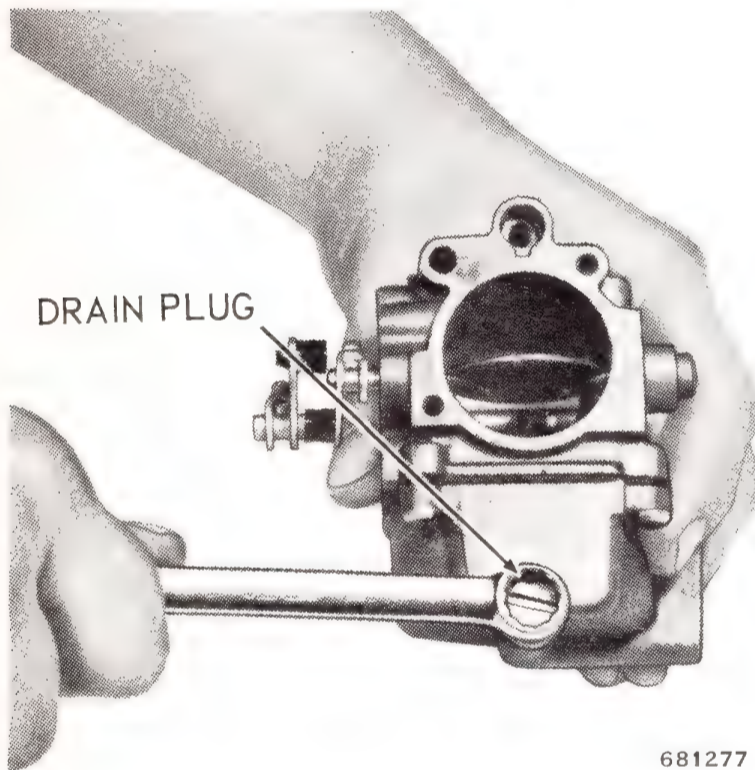

Figure 3-8. Drain Carburetor
- a. Drain carburetor by removing screw plug from bottom of float chamber. See Figure 3-8.